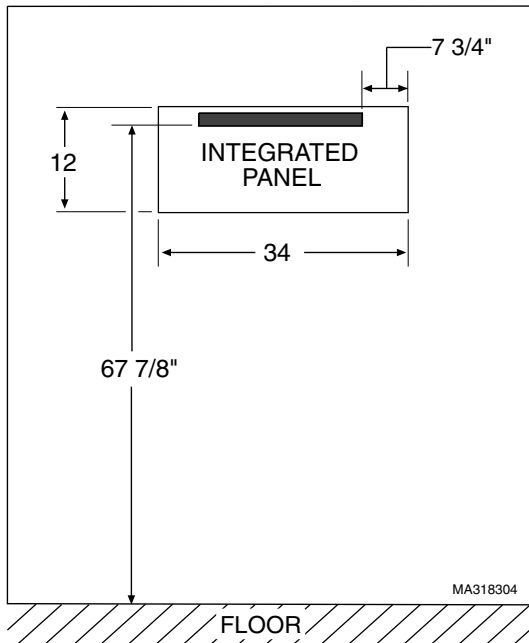

FIGURE 2. MOUNTING BRACKET POSITIONING ON WALL
2. Measure and mark the mounting locations of the mounting bracket on the wall. See Figure 2.